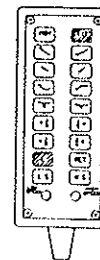

Figure 2-5. Brake System Function
- b. Floor Lock/Brake System. The floor lock/brake system consists of four hydraulic cylinders which raise and support the table base off from the castors. To activate the brakes, press both the FIX and ENERGIZE buttons (figure 2-5.) and hold for 6-8 seconds to allow full extension of the cylinders.